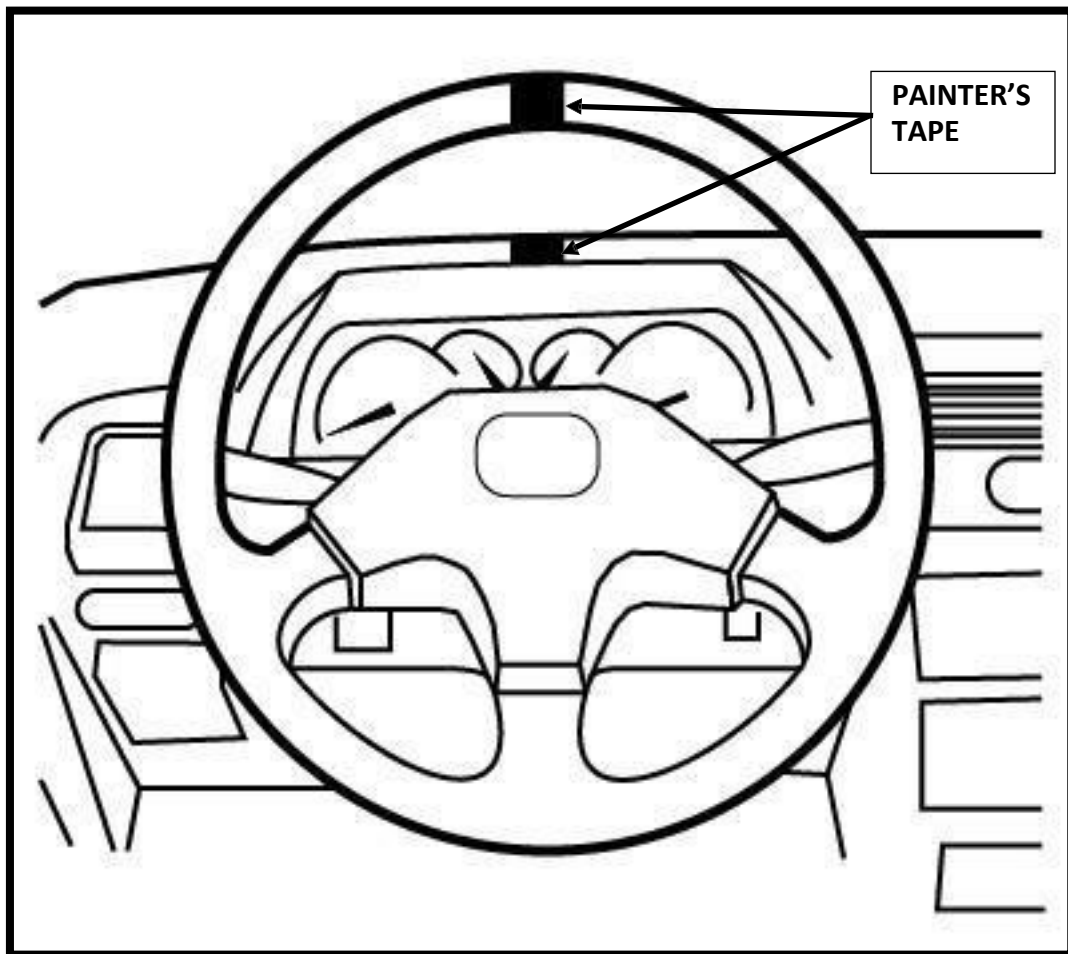

Figure 6. Tape Application to Steering Wheel and Dashboard
- One person must hold the steering wheel so that the wheels remain in the straight ahead position, while the second person steps outside the vehicle to adjust the SAFE T PLUS[®] unit. If second person is not available, place a strip of **painter's tape** on the top center of the steering wheel, and place a strip on the dashboard above the instrument cluster, directly in line with tape on steering wheel before exiting the vehicle (*Figure 6*).